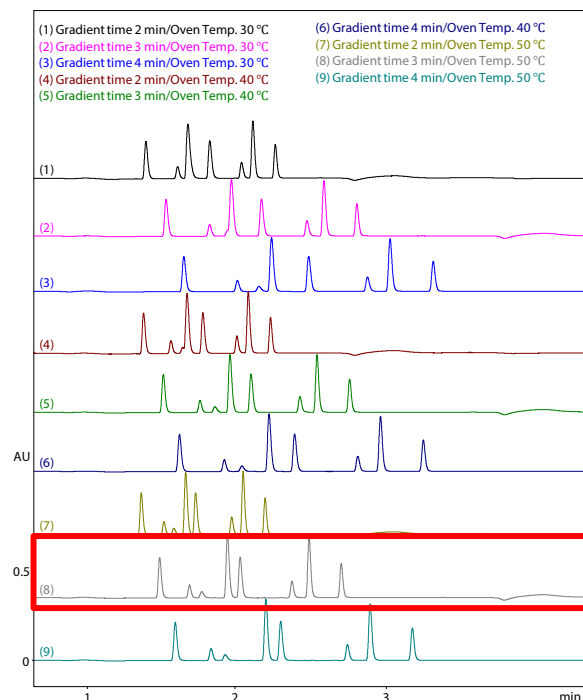
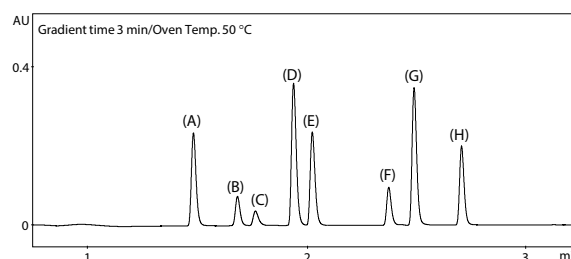

Fig. 5 Chromatograms Obtained by Varying the Gradient Time and Column Oven Temperature
Fig. 6 Chromatogram Under the Optimal Separation Conditions: (8) in Fig. 5 (Peak labels correspond to those in Table 1)
Fig. 5 shows the chromatograms obtained by comprehensively varying the gradient time and column oven temperature. A longer gradient time tended to improve the separation between peaks, while higher column oven temperatures resulted in earlier elution of the compounds and a shorter overall analysis time. Considering both the resolution between compounds and the need to minimize analysis time, the condition of a 3-min gradient and a column oven temperature of 50 °C ((8) in Fig. 5) was selected as the optimal separation condition. Fig. 6 shows the chromatogram obtained under the optimal conditions.